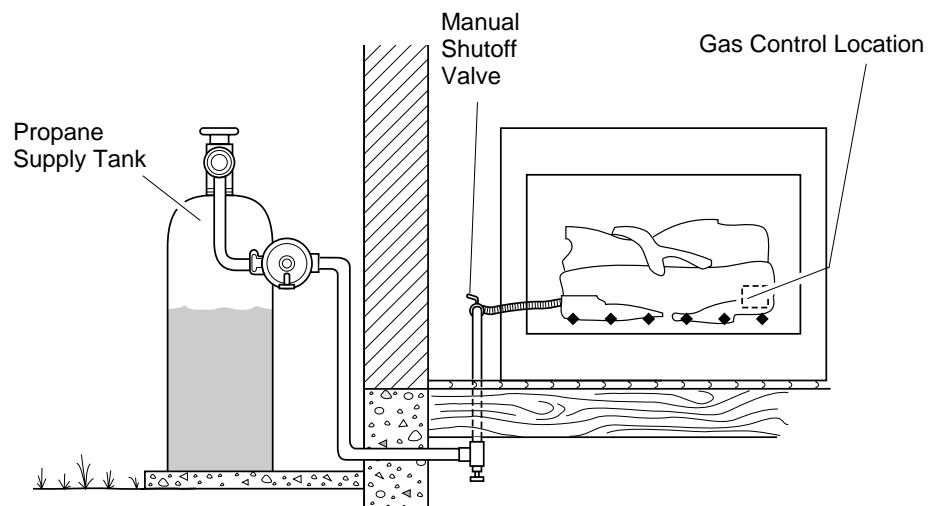

Figure 15 - Checking Gas Joints
3. Check all joints from propane supply tank to manual shutoff valve (see Figure 15). Apply mixture of liquid soap and water to gas joints. Bubbles forming show a leak.